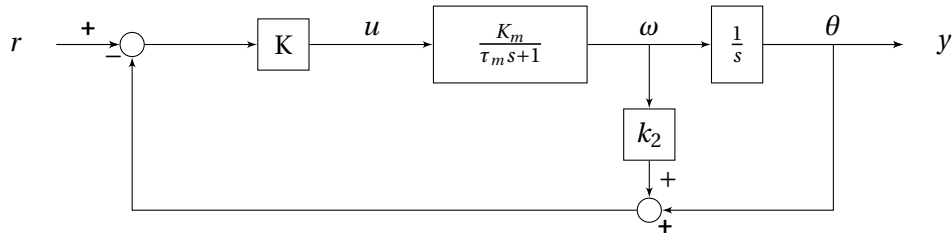

Figure 3.1: Motor Closed Loop Model
8. The closed loop model for the DC motor is provided in Figure 3.1. Find the closed loop transfer function $\frac{Y(s)}{R(s)}$ using block diagram reduction.